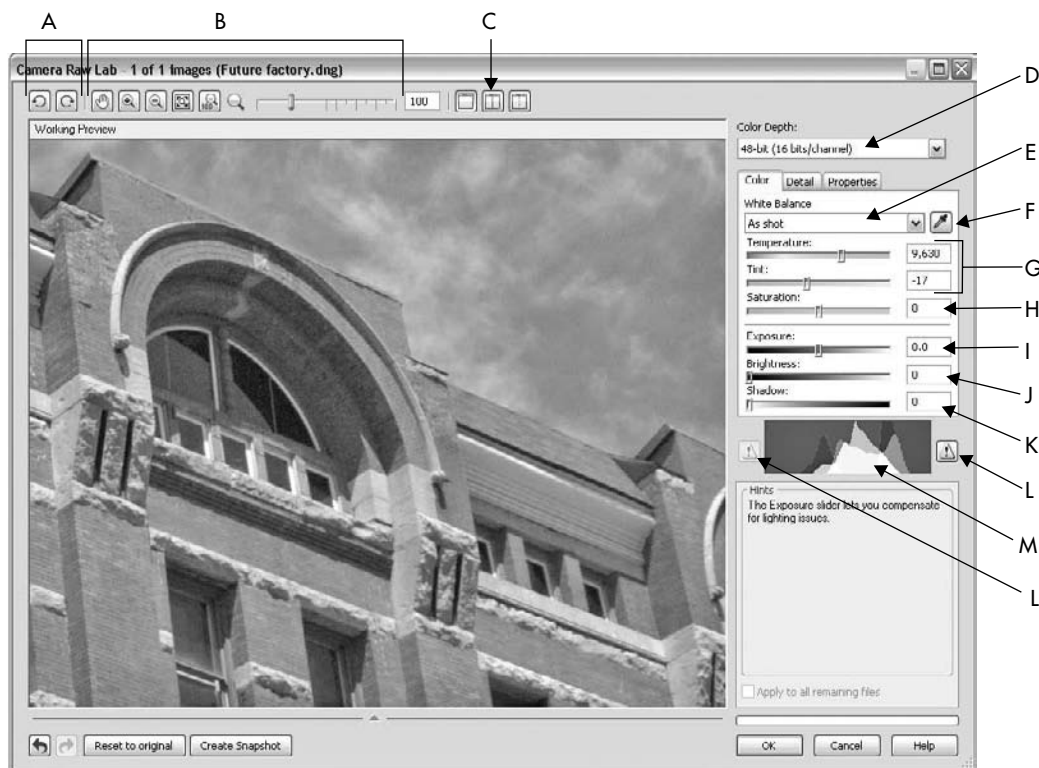

FIGURE 26-4 Use the Raw Lab to color- and tone-correct high-quality digital images.
5. Click the Color tab; here's where the fun begins. Follow the callout letters in Figure 26-4 to guide you through which features do what.